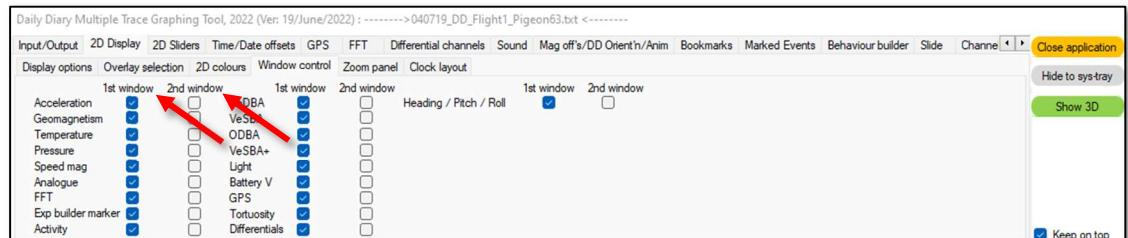

Figure 1.3 Graphing data on the second 2D window
**Load data** to display your first ‘split’ of data, Figure 1.3. A split is defined as either all of the data if the user is able to load all in one go, or a subset of the whole. A series of windows will now appear. The window named **drawing** will contain a series of graphs. **Drawing 2** is simply a second window to display the same, or other, data – think of it as more “floor space”.